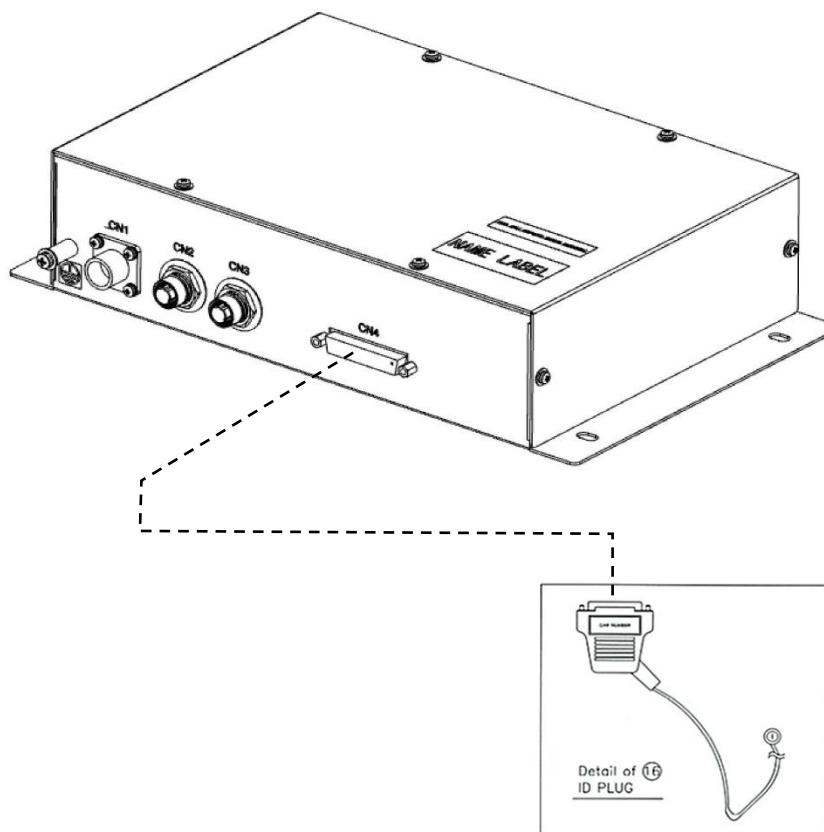

Figure 7-3: Detail View of ID Plug Installation Status in IFU
2. Disconnect the ID plug from the IFU. Figure 7-3 shows the installation detail of the ID plug for the IFU. First, release the fixed bolt with washers. Second, disconnect the ID plug from the IFU. The disconnected ID plug will be reused for the replaced IFU, therefore, the ID plug should be secured to the rack frame (using M4 hex bolt, nut and washer shown in Figure 3-4) if the IFU is not immediately replaced with a new device.